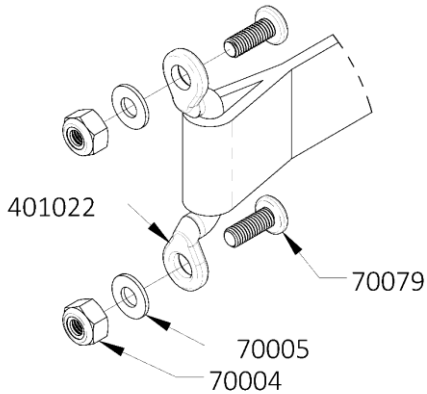

Figure 15: Webbing Anchor Hardware
23. Thread the other end of the door strap (401035) into the webbing anchor (401022) as shown in Figure 15. Install the webbing anchor to the door where the rubber grommet was removed.